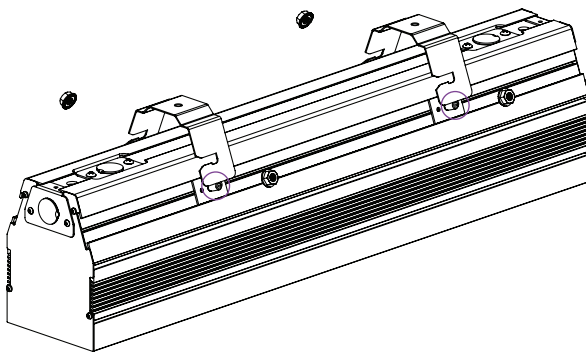

fig. 10
2. On the exterior of the fixture, slide two t-studs into each of the two side channels. Two t-studs for each bracket. T-studs highlighted in fig. 10.